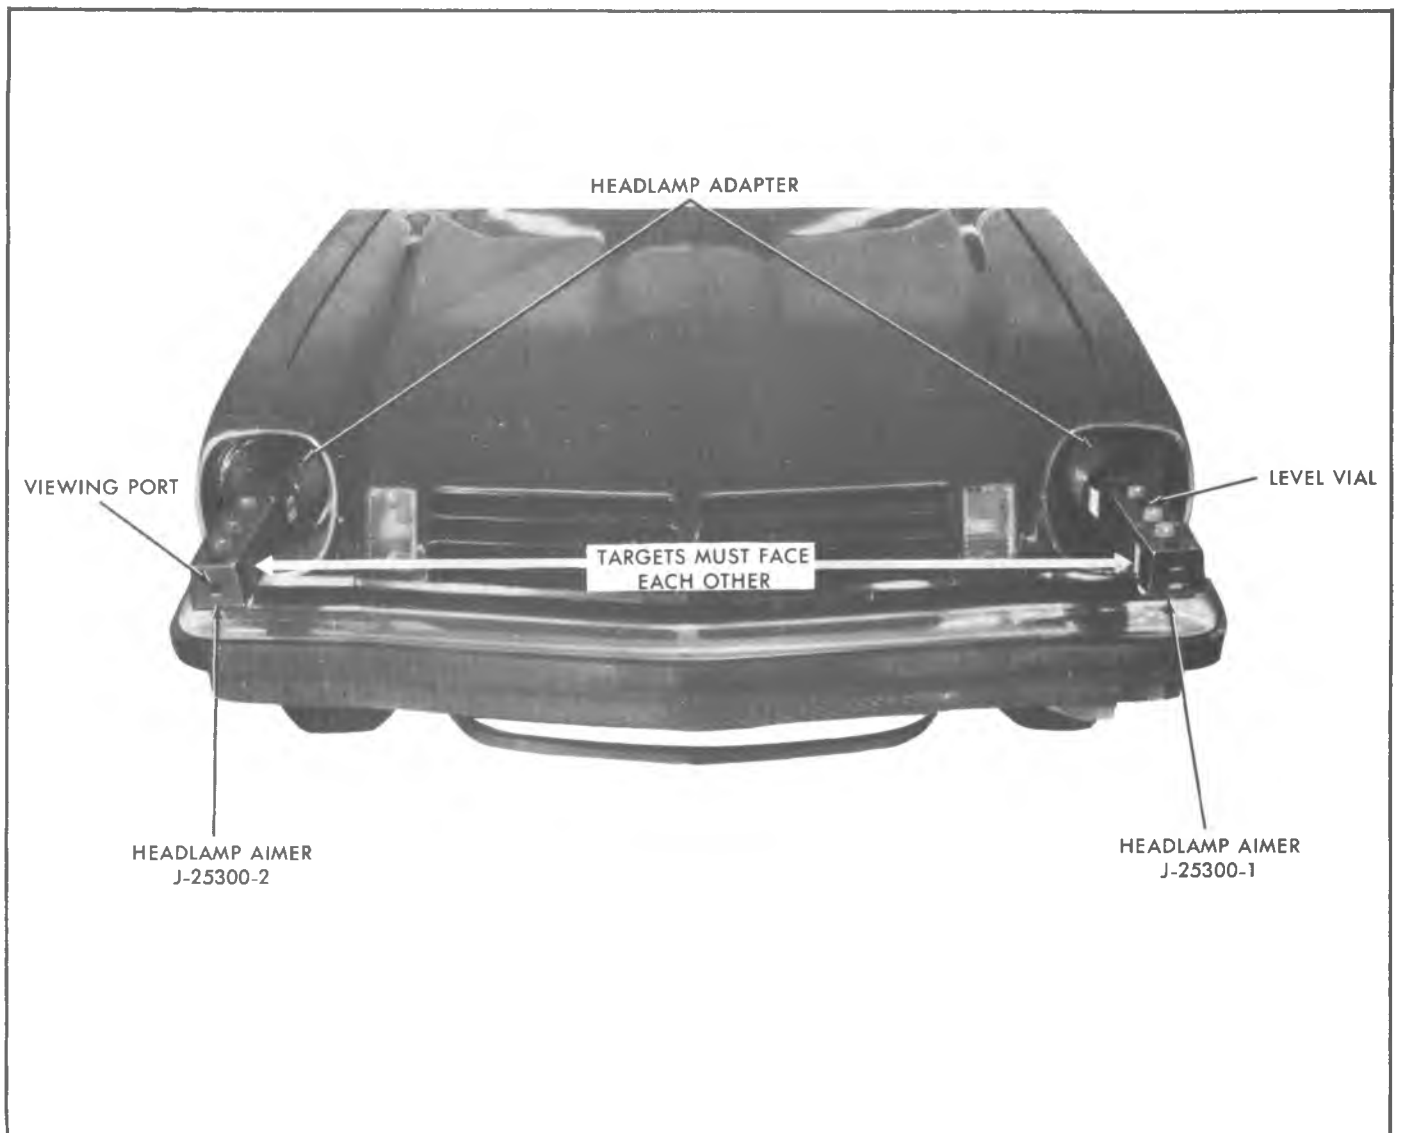

Fig. 6—Headlamp Aiming (Typical)
8. Position aimer with headlamp adapter attached so that the three guide points of the lamp are in contact with the three steel inserts inside the headlamp adapter. Secure aimer to headlamp by pushing locking handle (fig. 3) forward to engage rubber suction cap and then immediately pull locking handle rearward until it locks in place. Headlamp aimers must always be used in pairs and installed so that they face each other (fig. 6).